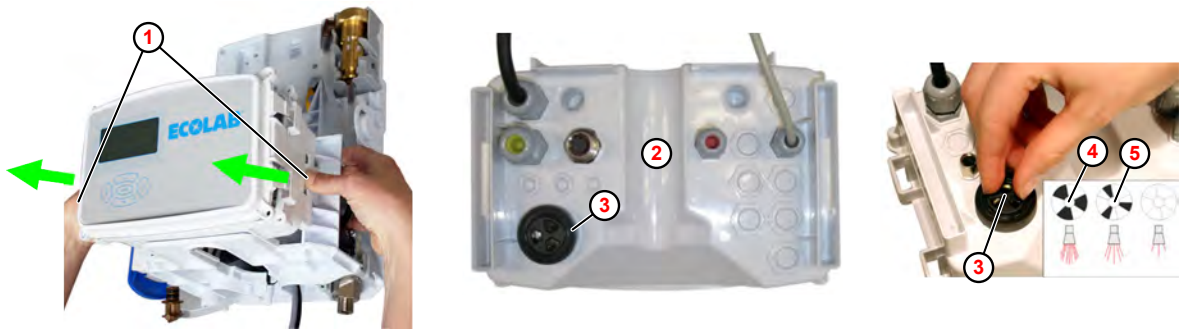

Fig. 7: Set alarm volume
- 1.** ➤ Press both tabs (Fig. 7 , ①) on the electronics housing ② .